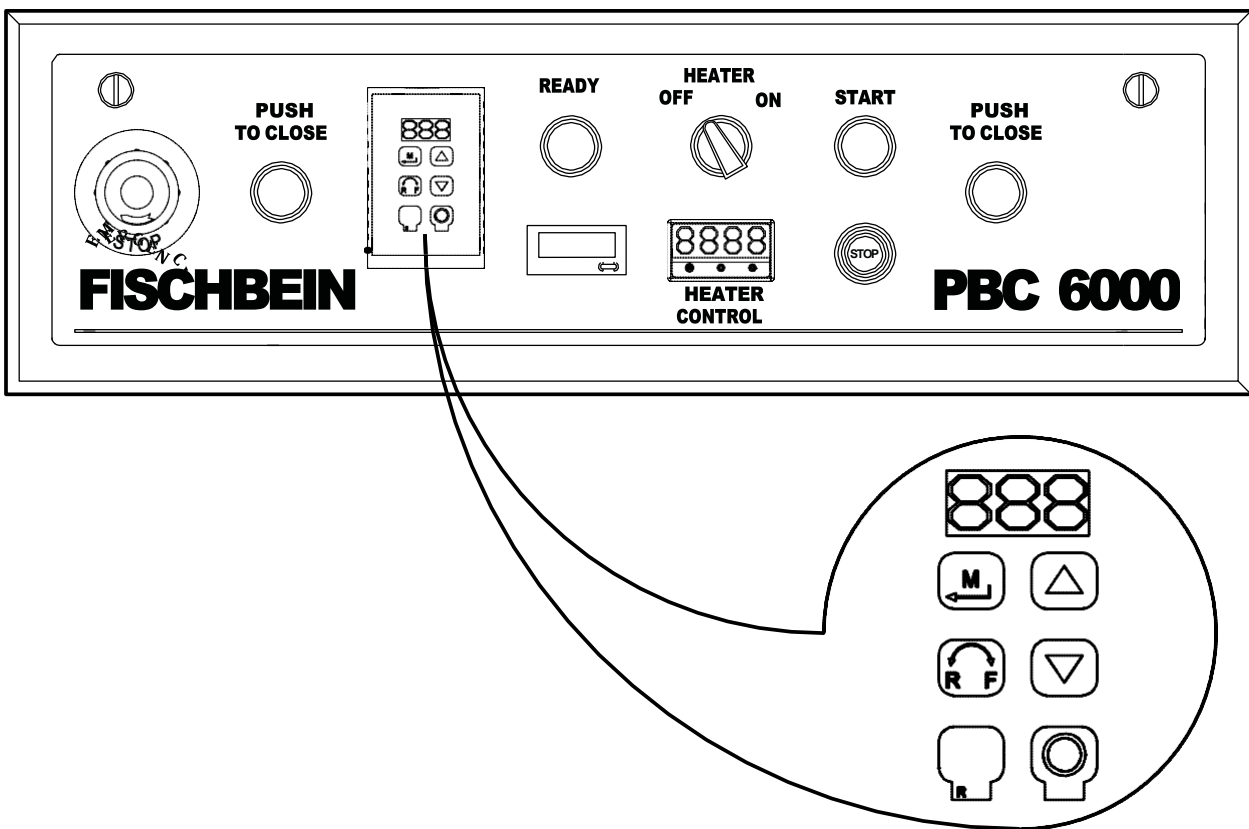

Figure 3-9: Speed Control
Synchronizing the machine involves adjusting external and internal rates to provide a good strong seal. The external synchronization is between the machine and the conveyor system. The carry through belts of the machine provide the speed for folding and sealing the bag top. These belts must be set to run at the same linear rate as the conveyor system. If the timing between the two systems does not match, the bag will be tilted forward or backward and will not completely seal the bag. Use a hand-held tachometer set for measuring feet per minute or meters per minute and check the linear speeds of the two systems. The machine's speed can easily be adjusted by pressing the up or down arrows on the keypad (see Figure 3-9: Speed Control). The UP arrow increases the speed, while the DOWN arrow decreases it. Always remember to adjust the speed of the machine when the line speed changes.
- Push the green **START** button (see "START Button" on page 2- 5.) to start the machine. The button should stay illuminated if there are no system errors (see Figure 3-9: Speed Control).